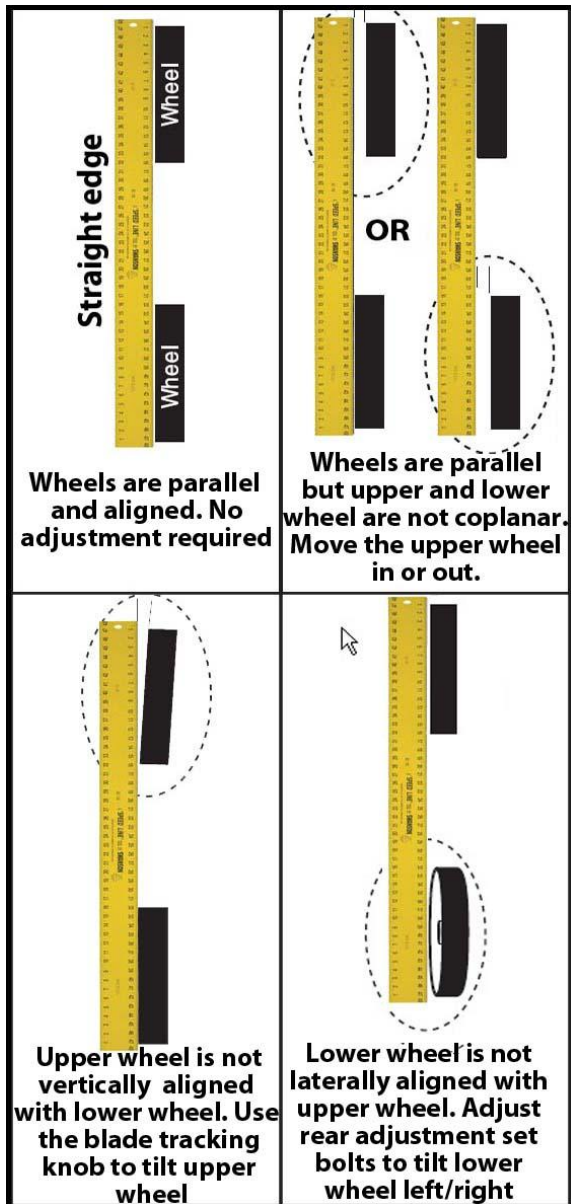

Figure 12
4. Check the wheel alignment and adjust the tracking knob to bring the upper and lower wheel into alignment as much as possible. If both wheels are unable to be adjusted for coplanar see Figure 12 below for more information on how to proceed with alignment adjustments.